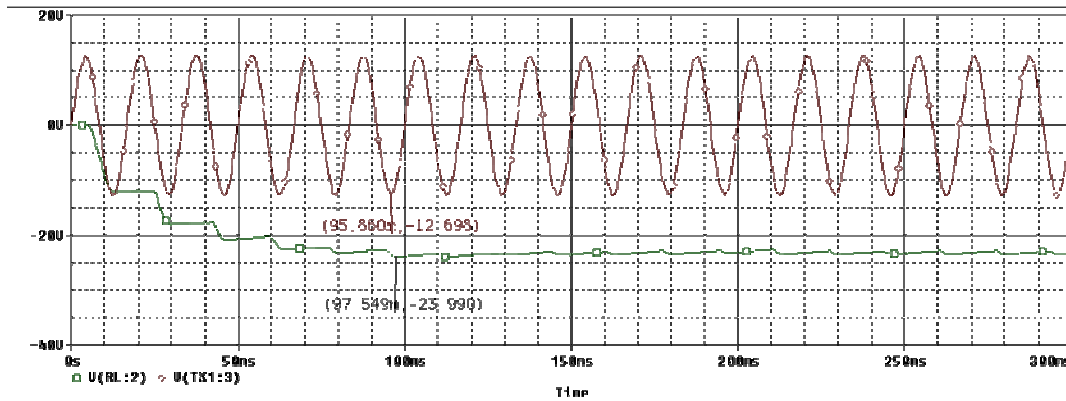

Fig 1.5 – Secondary Coil voltage & Output Voltage across load resistor
-Figure 1.5 shows a successful 'doubling' of a $V_{\text{source}}=9V_{\text{RMS}}$ ($12.698 V_p$) source. The green trace shows a nearly doubled value of -23.9 Volts, which is nearly $|2V_p|$. Notice 'steady-state' for the circuit isn't reached for roughly 6 cycles. Note: the green trace is nearly a DC signal, that is the purpose of a voltage doubler.